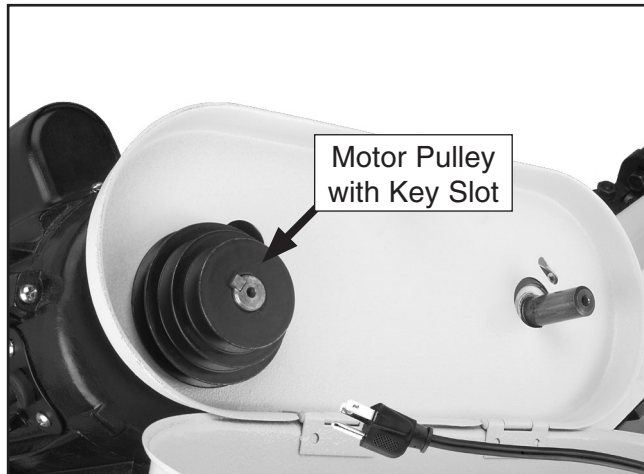

Figure 11. Installing motor pulley.
3. Slide the large diameter motor pulley onto the motor shaft, closest (**Figure 11**).